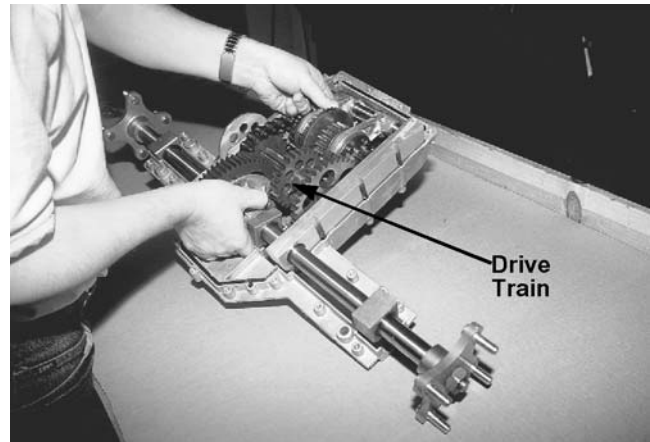

Figure 5-71.
10. Remove the entire drive train by grabbing the axles with two fingers and pushing down on the housing with your thumbs to release the axles from the housing. Then, with one hand under the differential and the other on the front shaft, remove the entire gear train from the housing and place it on the workbench. See Figure 5-71.